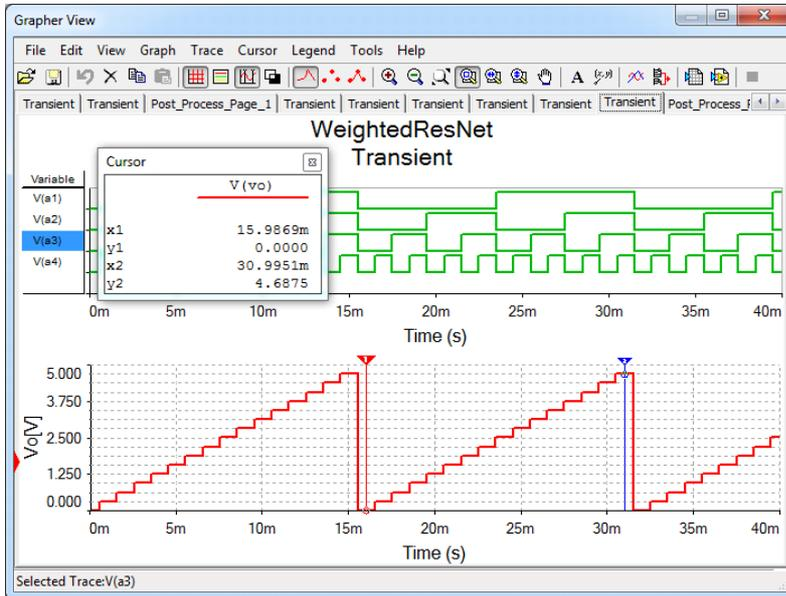
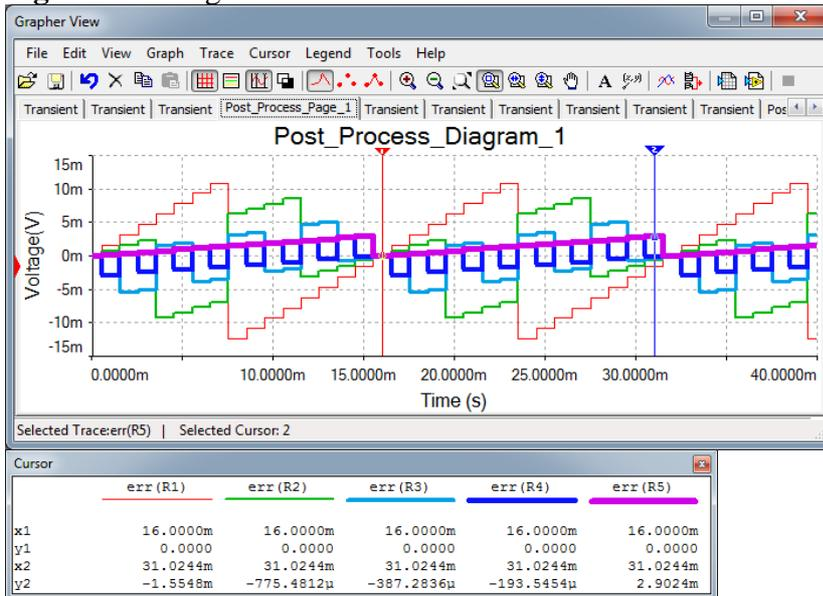

Figure 3.3 Weighted resistors network simulation results
Figure 3.4 1% resistor mismatch errors
Figure 3.3 shows the transient simulation results. The digital graph (up) shows the bits of the number $\{A\}$ (four-bit binary counter), the analog graph (down) shows the V_o voltage (ramp from $0V$ to $V_{FS}-V_{LSB}=4.6875V$, in steps of $V_{LSB}=312.5mV$). The cursors are set at $\{A\}=0$ and $\{A\}=15LSB$, with $dy=V_{FS}-V_{LSB}$.
The post processing results are shown in Figure 3.4. Some interesting, yet predictable, properties of the graphics:
- B. all other errors are non-linear and have minimum absolute values for $\{A\}=0$ and $\{A\}=1-1LSB$ (see cursor positions in Figure 3.3 and Figure 3.4). Indeed, conform to equation (3.5), when all bits $a_i = 0$, $V_e = 0$ and does not depend on R_k (nor on R_k errors). For $\{A\}= 1$ (if that would be possible) $V_e=V_{ref}$, not depending on R_i or R_i errors.
Set the *Scope* as in Figure 3.10. Run the scope. Observe the graph. Compare to Figure 3.3. Notice that for the experimental board, the ideal values are: